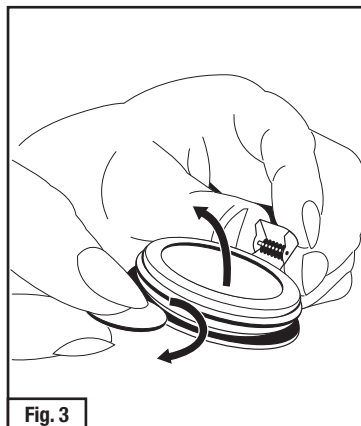

Fig. 3
5. After sampling period is ended, remove plastic ring and white film from the monitor (Fig. 3). **MOVE TO STEP 6 IMMEDIATELY.**